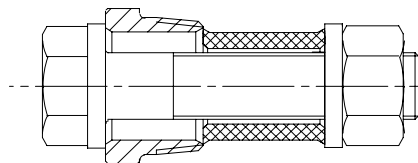

Fig. 10
Before installing the bonnet (27), put the cushion and the valve stem guider into the bonnet. The valve stem guider is composed of a guiding body and an inner sleeve. Check the inner sleeve during the replacement of the bonnet seals. And replace with a new inner sleeve, when the old one is worn or damaged. When replacing, cut and take out the old inner sleeve, and then use the attachment tools (bolts, nuts and washers) to press the new inner sleeve in, as shown in Fig. 10.